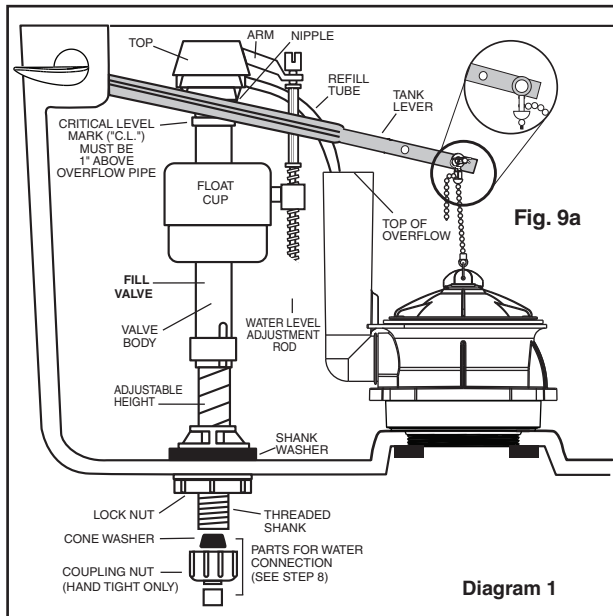

Fig. 9a
- If bowl fails to siphon, an adjustment may be required with the lift chain. Simply remove the bead chain from the retainment clip (see Fig. 9A) and take up slack on the chain, and reinsert on lift rod. Make sure the chain is not too taut.